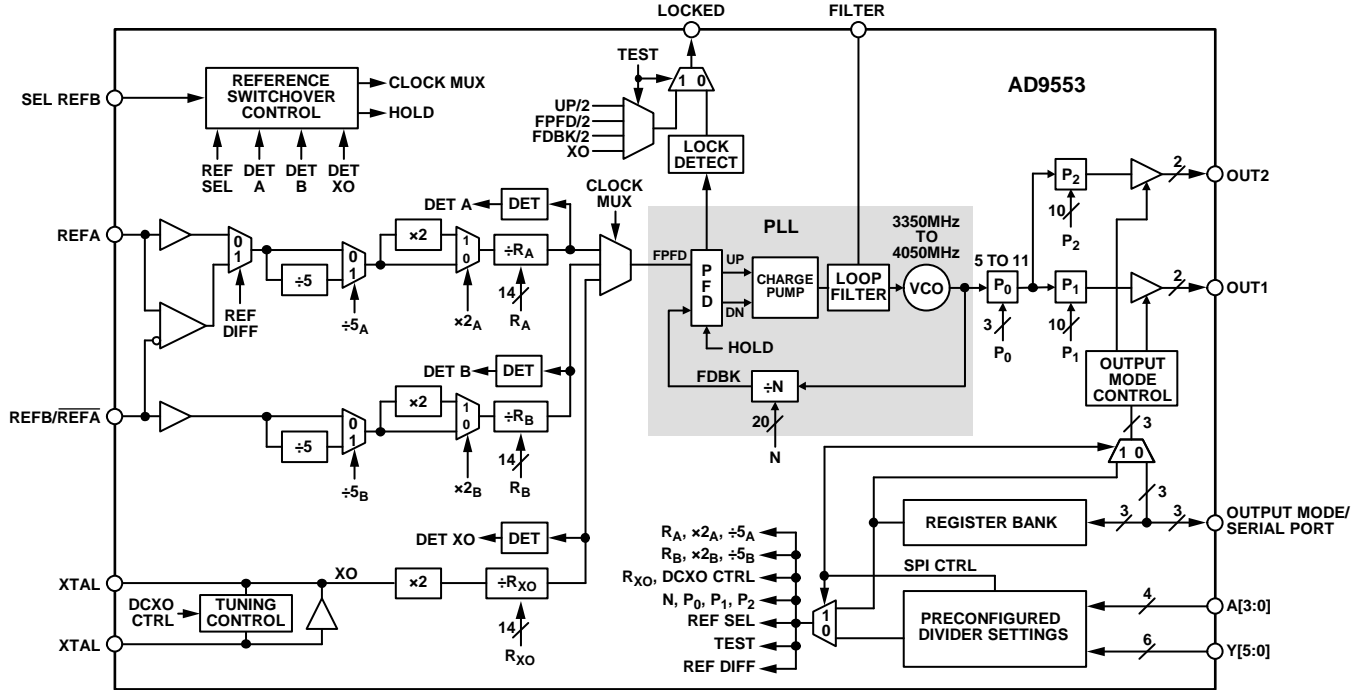

Figure 27. Detailed Block Diagram
Generally, the clock signals that appear at the input to the clock multiplexer (see Figure 27) all operate at the same frequency. Thus, the frequency at the input to the PLL (FFPD in Figure 27) is the same regardless of the signal selected by the clock multiplexer. The PLL converts FFPD to a frequency within the operating range of the VCO (3.35 GHz to 4.05 GHz) based on the value of the feedback divider (N). The VCO prescaler (P_0) reduces the VCO output frequency by an integer factor of 5 to 11, resulting in an intermediate frequency in the range of 305 MHz to 810 MHz.
The frequency selection pins (A3 to A0 and Y5 to Y0) allow the user to hardwire the device for preset input and output frequencies based on the pin logic states (see Figure 27). The pins decode ground or open connections as Logic 0 or Logic 1, respectively.